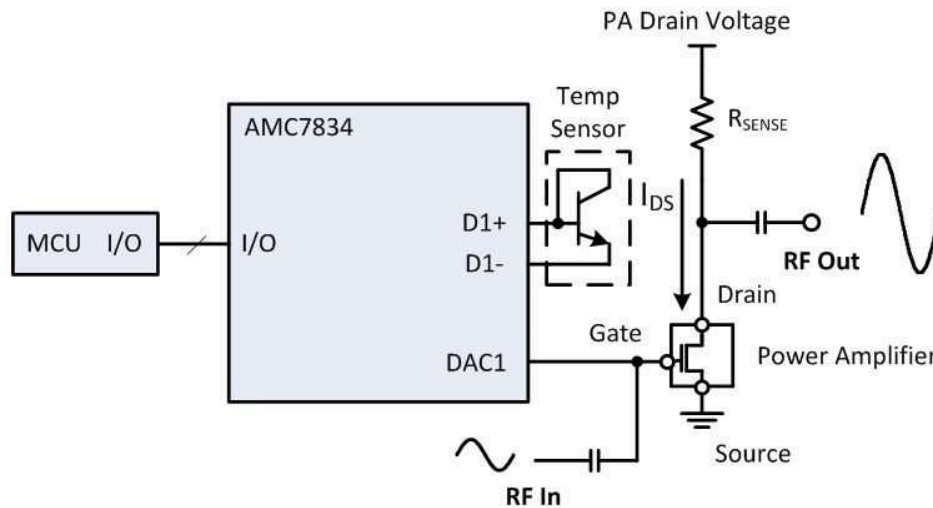

Figure 3: Temperature sensing with the AMC7834
- information to an external microcontroller. The microcontroller updates the DAC to a specific voltage value based on the data from the LUT, as show in Figure 3.